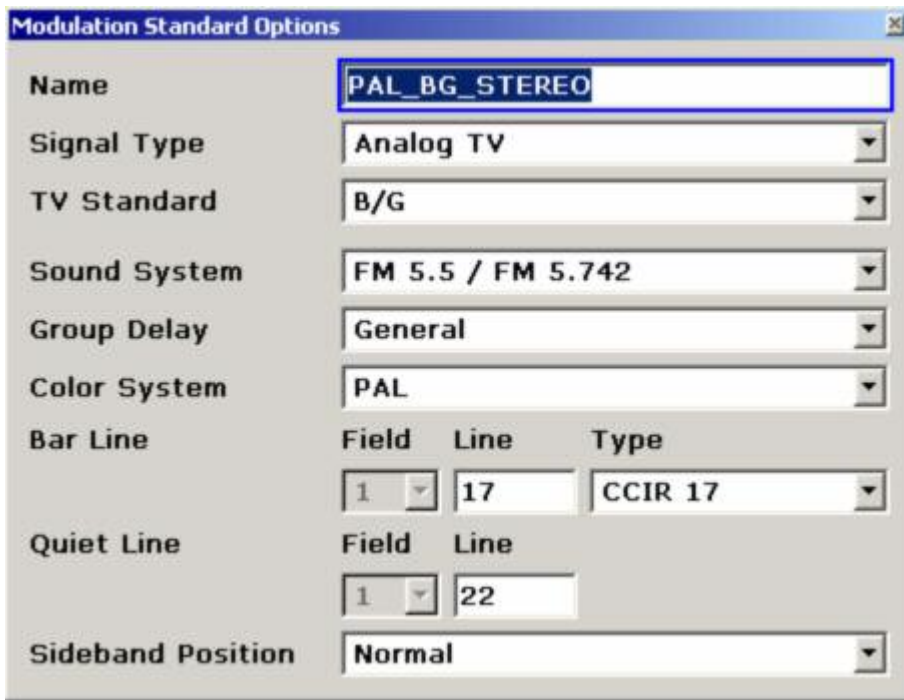

Fig. 2-51 Analog TV modulation standard PAL_BG_STEREO
The **Modulation Standard Options** dialog box appears (see for example Fig. 2-51).
- The **Modulation Standard Options** dialog box should now look as in Fig. 2-51.